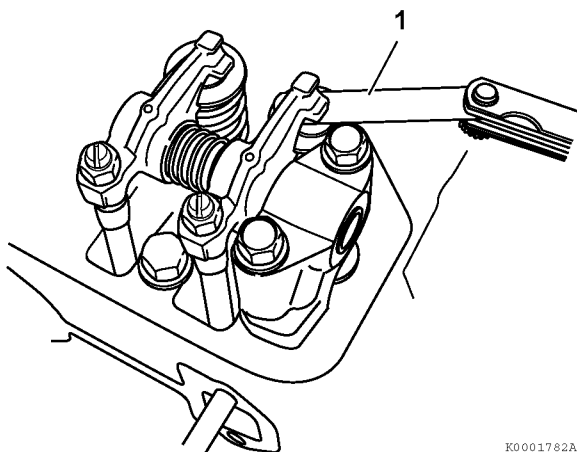

Figure 6-38
3. Insert a feeler gauge (Figure 6-38, (1)) between the rocker arm and valve cap, and record the measured valve clearance. (Use the data for estimating the wear.)